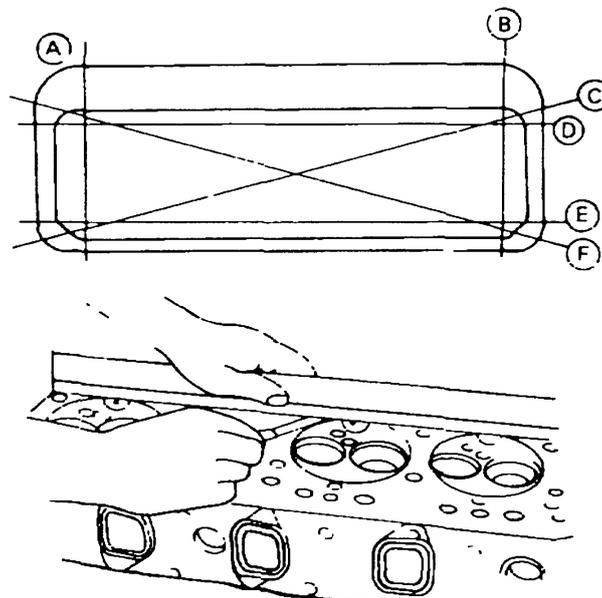

Figure 17 Checking Cylinder Head Distortion
- c. Using a straight edge and feeler gauge, check that the cylinder head distortion is less than 0.2 mm (0.008 in), in several directions (Figure 17). Replace the cylinder head as necessary.